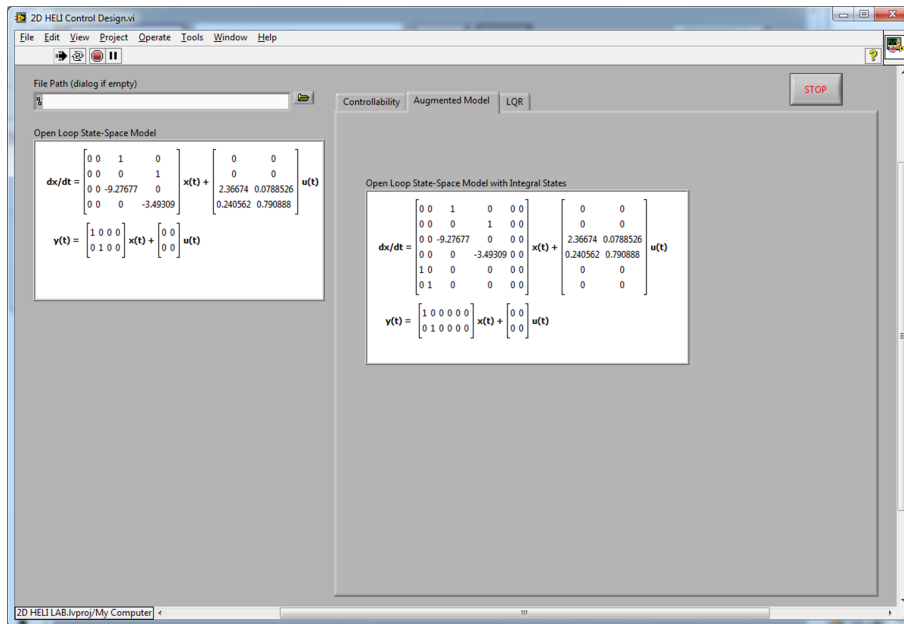

Figure 5.6: Linear model augmented with integrated states.
- Click on the Augmented Model tab to generate the linear 2 DOF Helicopter model augmented with integrated states $\int \theta dt$ and $\int \lambda dt$, as shown in Figure 5.6.